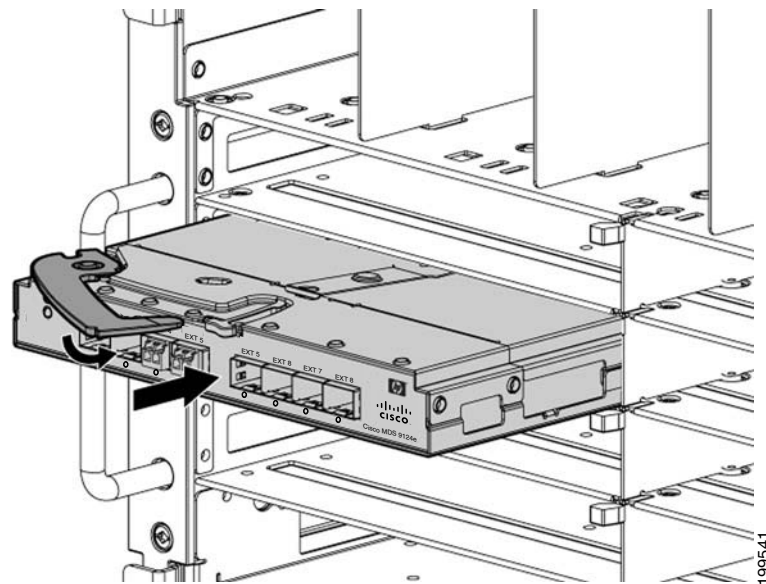

Figure 5 Installing the Cisco MDS 8Gb Fabric Switch into an interconnect bay
5. Push firmly into the interconnect bay (see Figure 5).